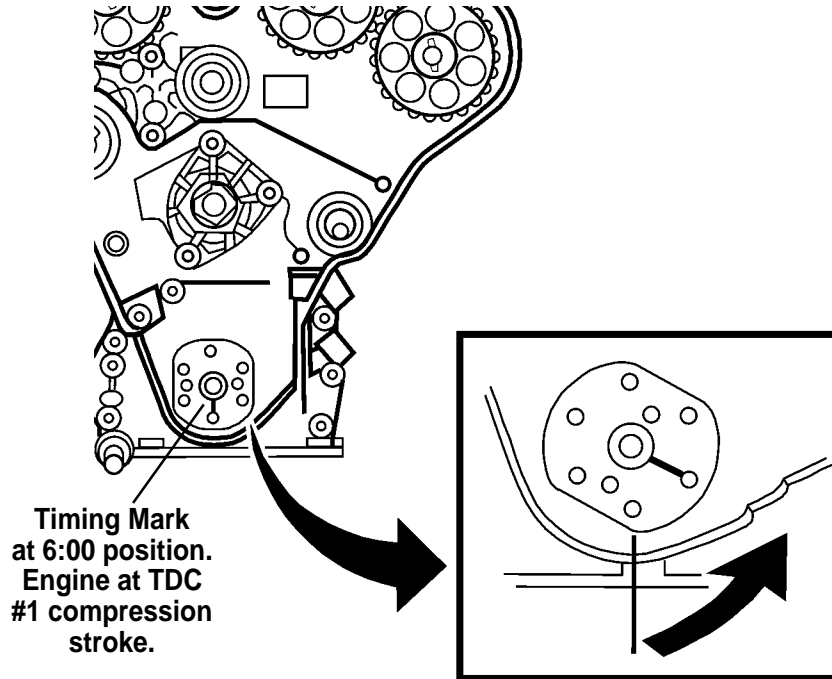

Figure 1
2. Use No. 536613 crankshaft socket to rotate the crankshaft 60° counterclockwise (CCW). See Figure 1.